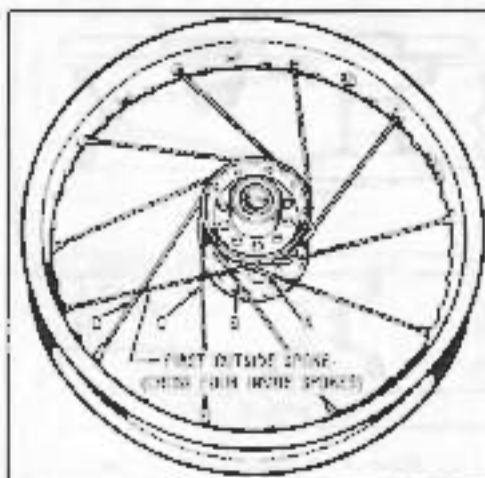

Figure 20-5. Spoked Wheel
5. Insert spokes in outer ten holes of flange and swing spokes clockwise (see Fig. 20-5).